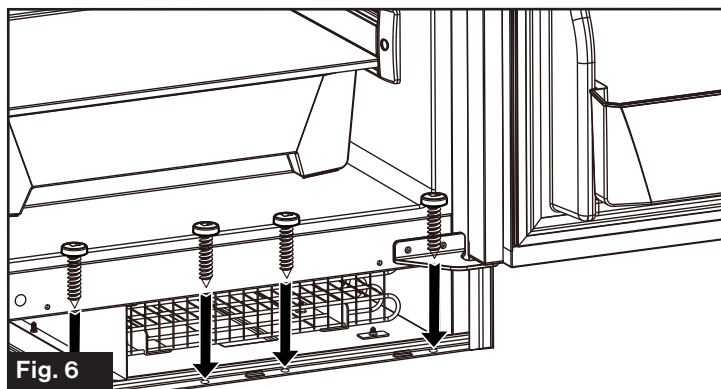
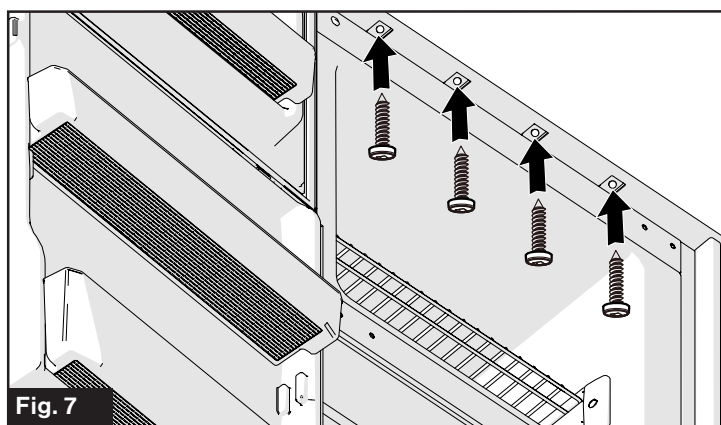

Fig. 6
Fig. 7
4. Affix the refrigerator into the enclosure on both the top and bottom. (Fig. 6 and Fig. 7)